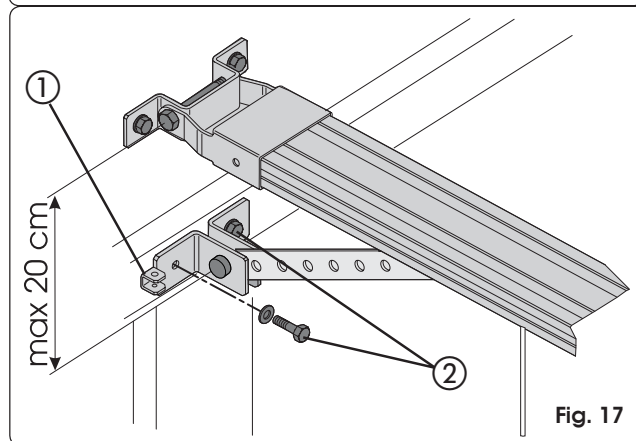

Fig. 17
- 4) Make sure that the distance between the between-centres of the securing holes of the front fitting and the on-door fitting does not exceed 20 cm (Fig. 17). To ensure correct operation of the automated system, we advise you to avoid arm inclinations of over 30° compared to the sliding guide.
- 5) Mark, drill and secure the fitting to the door, using the screws (ref. ② Fig. 17) **NOT** supplied.